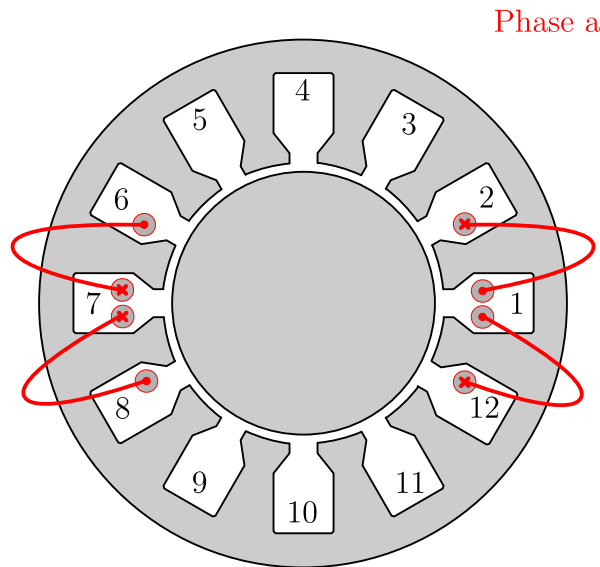

Figure 4.2: Simplified sketch of a concentrated winding. Only phase a is shown.
Consider the shown 10-pole 3-phase motor with 12 stator slots in Fig. 4.2. The winding scheme of phase a is shown in the figure.
3.2 Complete Tab. 4.2 with the winding scheme for phases b and c. Sketch the resulting winding scheme in Fig. 4.2.
Table 4.2: Winding scheme of a concentrated winding from Fig. 4.2.